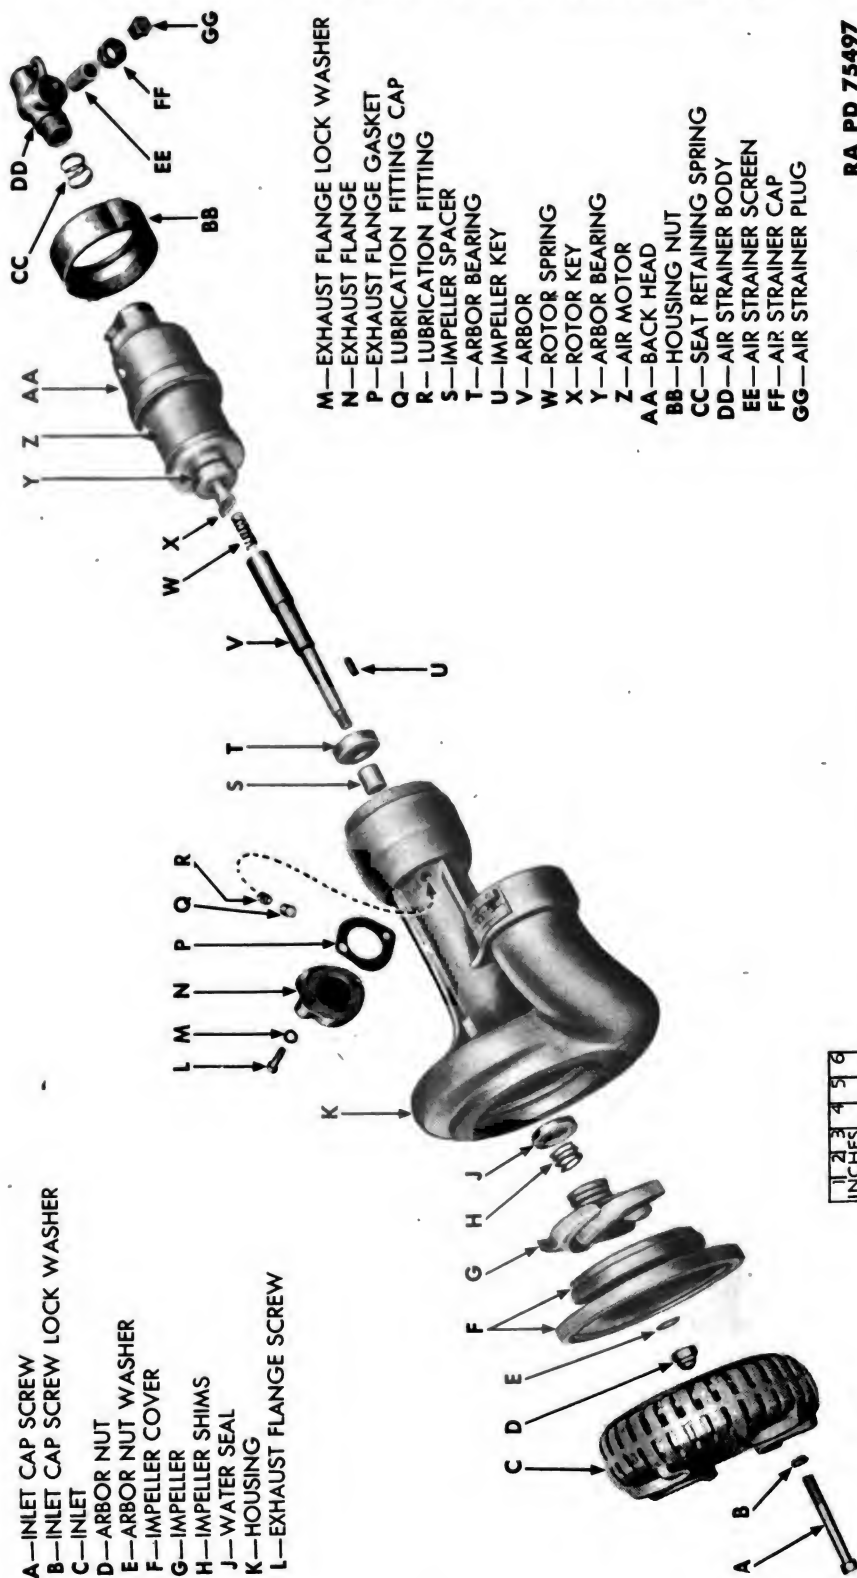

Figure 94 — Air-driven Sump Pump — Exploded View
b. **Functioning** (fig. 94). In operation, the air-driven motor turns the impeller at a high rate of speed. The lower part of the pump housing, containing the impeller, is submerged in water. As the im-
(1) When made, clearance between impeller cover and impeller is set at about 0.010 inch. Wear increases this clearance, and when $\frac{1}{32}$ inch, remove inlet and cover (par. 73) and take out enough shims from under impeller cover to reduce clearance to about 0.010 inch. Place impeller cover in position and rotate impeller by hand to be sure they do not rub. When approximate adjustment is obtained, install impeller cover and inlet (par. 73).
(2) To adjust impeller to maintain $\frac{1}{64}$ -inch clearance between reverse side of impeller and housing, disassemble pump (par. 73), remove enough shims (fig. 94) to give $\frac{1}{64}$ -inch clearance, and assemble pump (par. 73).
(1) Remove back head (par. 73).
(2) Adjust oil adjusting screw on under side of back head beneath oil chamber plug. To reduce flow, turn clockwise. To increase flow, turn counterclockwise.
(3) Install back head (par. 73).
a. Disassembly (figs. 94 and 95).
(1) REMOVE AND DISASSEMBLE AIR STRAINER.
h. Assembly (figs. 94 and 95).
(1) ASSEMBLE HOUSING.